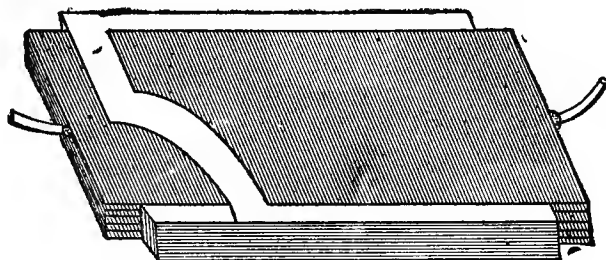

FIG. 115.—CONDENSER WITH SOLDERED ENDS.
soldering iron melt some solder and let it fall a drop at a time on the tin foil. Do not touch the tin foil with the hot iron or it will melt away. Soon all the ends of the leaves will be melted in with the solder, and a firm metal edge will result as shown in Fig. 115.
For this condenser you will need the following material: (1) two hard fiber disks with holes drilled in them as shown at *A* in Fig. 115; (2) eleven large semicircular fixed metal plates (see *B*); (3) ten small semicircular movable metal plates (see *C*); (4) four brass rods $\frac{1}{8}$ inch in diameter and $3\frac{5}{8}$ inches long; (5) ten hexagonal nuts; (6) thirty-three washers $\frac{3}{16}$ inch thick, $\frac{3}{8}$ inch in diameter and with a $\frac{1}{8}$ inch hole in them; (7) a knob; (8) a scale; (9) two binding posts, and (10) an $\frac{1}{8}$ inch adjusting screw.